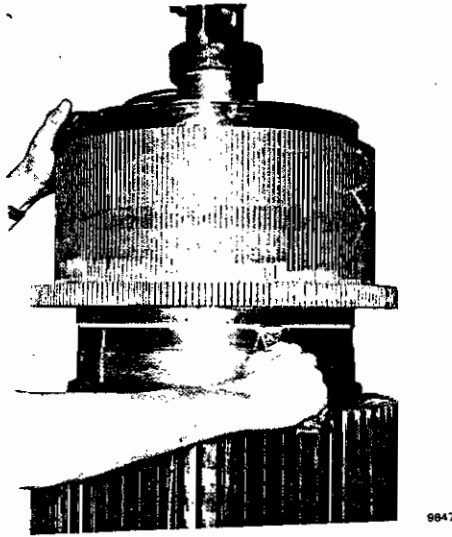

Fig. 25 - Removing Excess Silicone Rubber Compound from Under "V" Ring
3. Remove the excess silicone rubber compound from under the mica "V" ring with a scraper as shown in Fig. 25. Refer to Service Data for scraper part number.